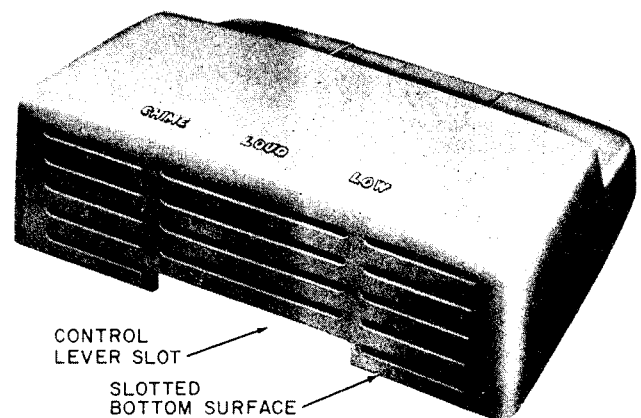

Fig. 2 — 125A Cover
**2.02** The plastic cover (Fig. 2) is not supplied with the F1A ringer. Order separately as follows: